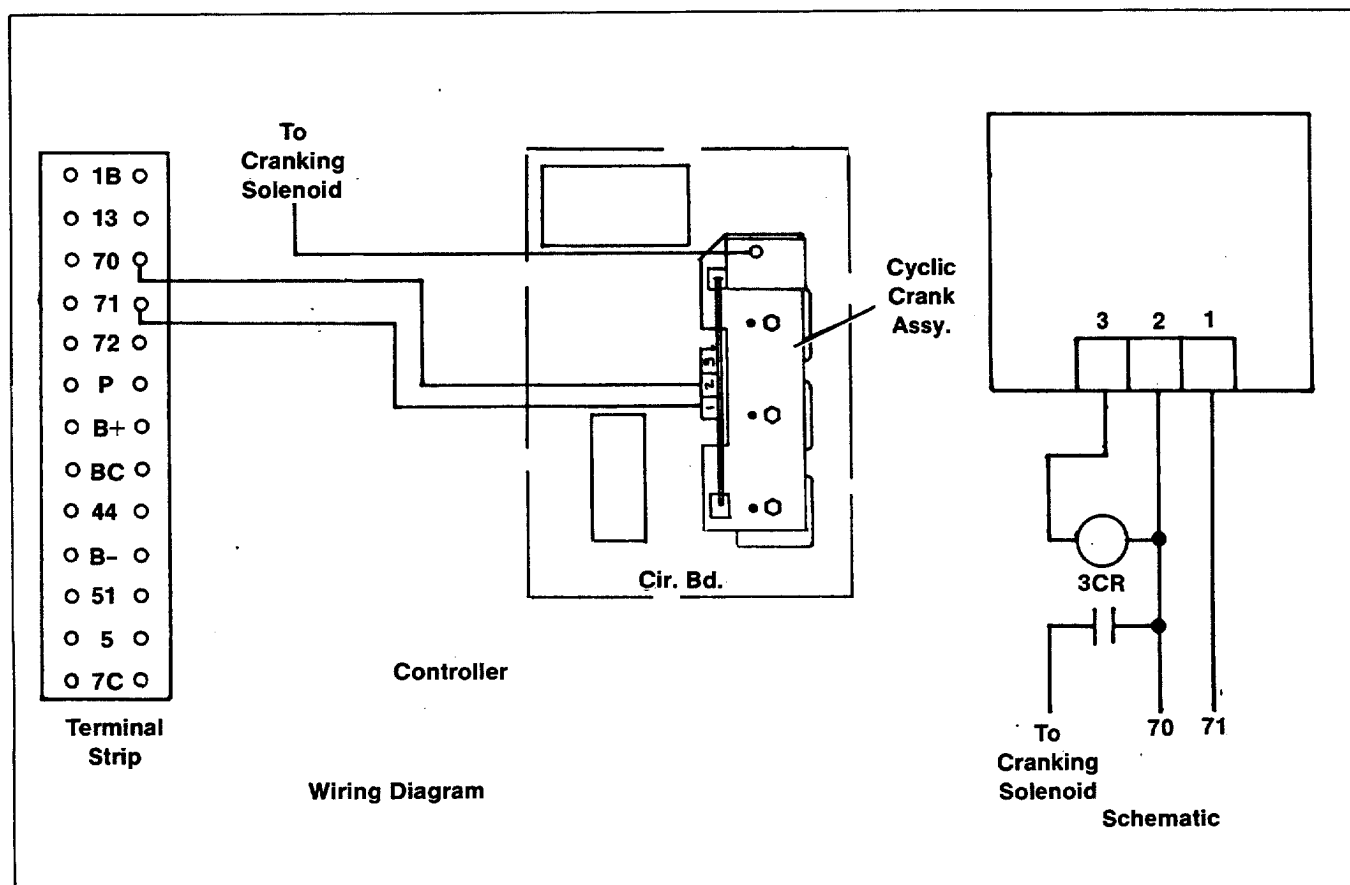

Figure 2. Wiring Diagram
6. Connect lead from terminal 1 of cyclic cranking kit to 71 on controller terminal strip. See Figure 2.